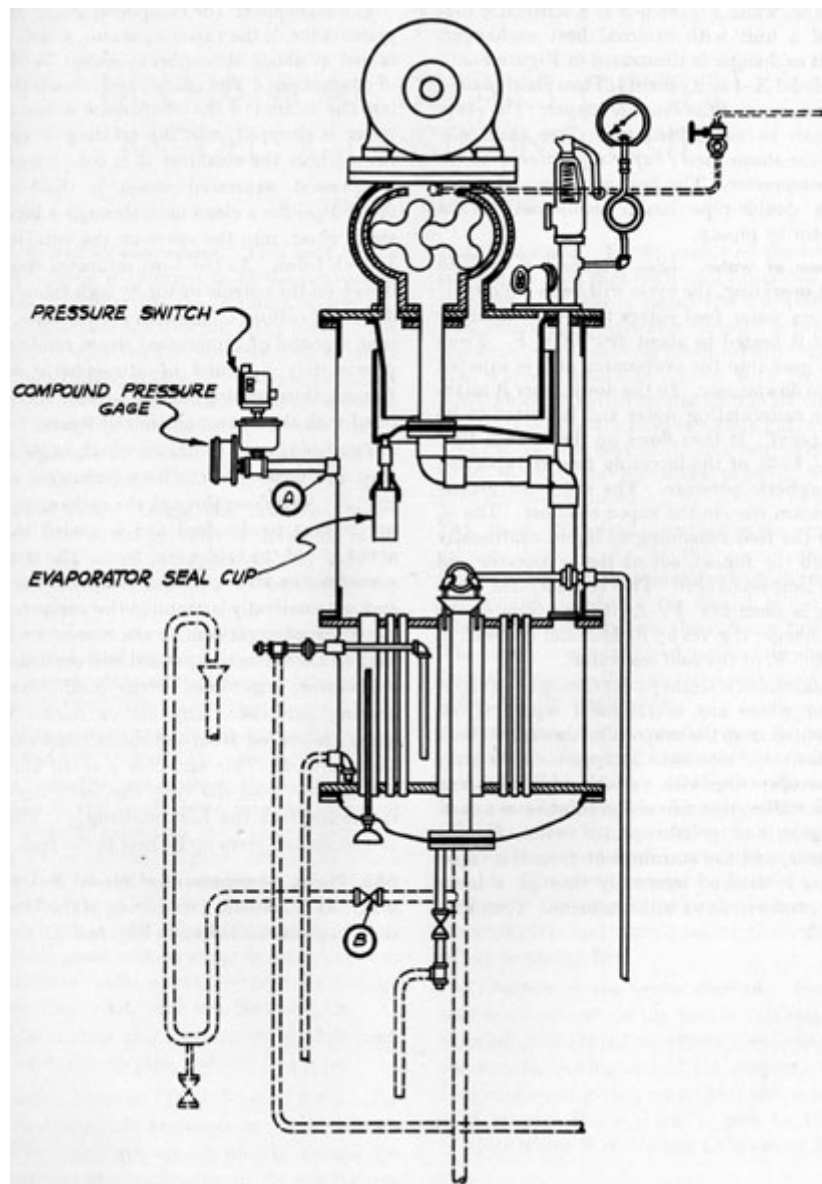

Figure 6-4. Schematic sketch for conversion of vapor compression distilling unit.
The atmospheric steam passes through the vapor separator where any entrainment separates out and is vented from the evaporator through a check valve except in those units equipped with conversions for operating with variable hull pressures. Where installed, this conversion substitutes a compound gage and pressure-static switch for the manometer, and the entrainment from the vapor separator is drained internally through a brass seal cup, and overflows with the brine. (See Figure 6-4.
In the converted units (see Figure 6-4) there is no vent from the vapor space inside the unit to the external pressure. The vapor pressure of the boiling water is registered on a compound gage which registers either vacuum (inches of Mercury) or pressure (inches of water). There is a pressure-static switch connected to the gage piping which is set to automatically control four (4) heating elements to maintain the vapor pressure at a positive pressure between six (6) and twelve (12) inches of pressure.